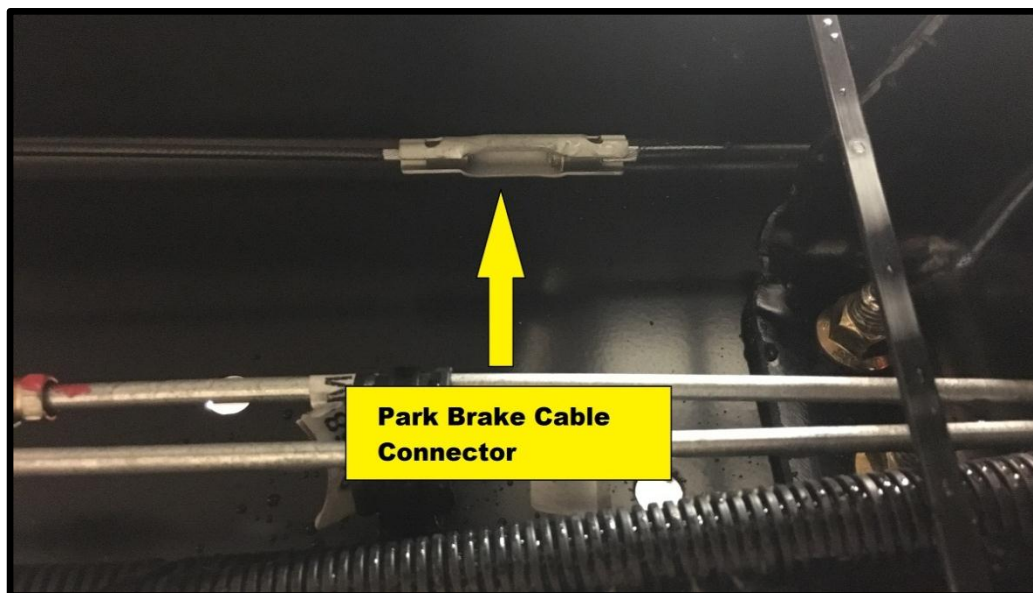

FIG. 3-1
4. Locate park brake cable connector clip on driver's side frame rail near output shaft of transmission. Refer to FIG. 3-1.